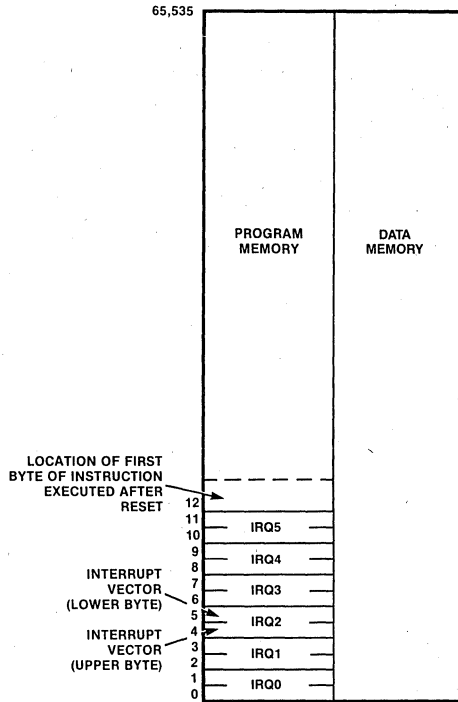

Figure 4. Z86C91 Program Memory Map
**Program Memory.** The Z86C91 addresses 64K bytes of external program memory space (Figure 4).